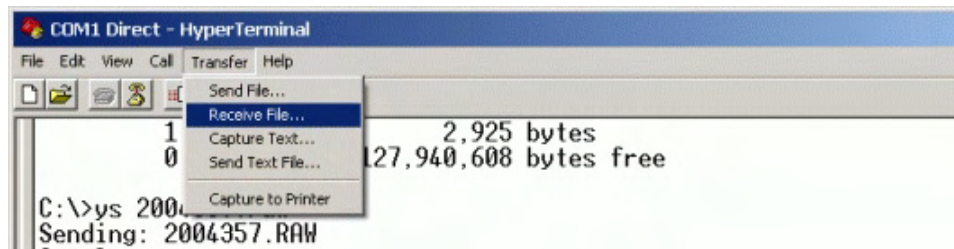

Figure 37 - HyperTerminal Menu Transfer>Receive file...
- In HyperTerminal, select **Transfer** → **Receive File...** to instruct HyperTerminal that it is about to receive a file, as shown in Figure 37.